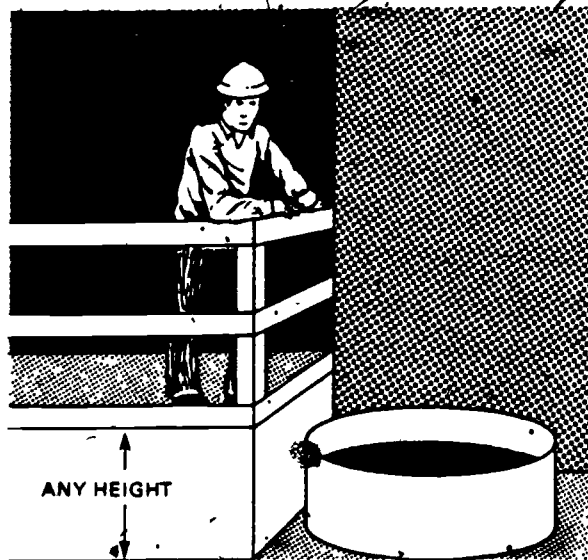

Figure 8. No matter what their height, runways and platforms that are next to dangerous equipment of any kind need to have standard railing and toeboard.
There are three situations in which a toeboard, an enclosure screen, or paneling is needed in addition to the standard railing. Wherever an open-sided floor, platform or runway is placed so that, below the open side (1) people can pass, (2) moving machinery is stationed, or (3) equipment is placed with which falling materials could make hazardous contact, then a toeboard, an enclosure screen, or paneling is needed. In the case of a runway, a toeboard is needed if there is any chance of tools, machine parts, or materials being used on the runway. Workers need to be very careful of runways or platforms which are above or next to dangerous equipment of any kind, such as pickling or galvanizing tanks, degreasing units or similar hazards (Figure 8). In these situations, regulation, along with common sense, requires